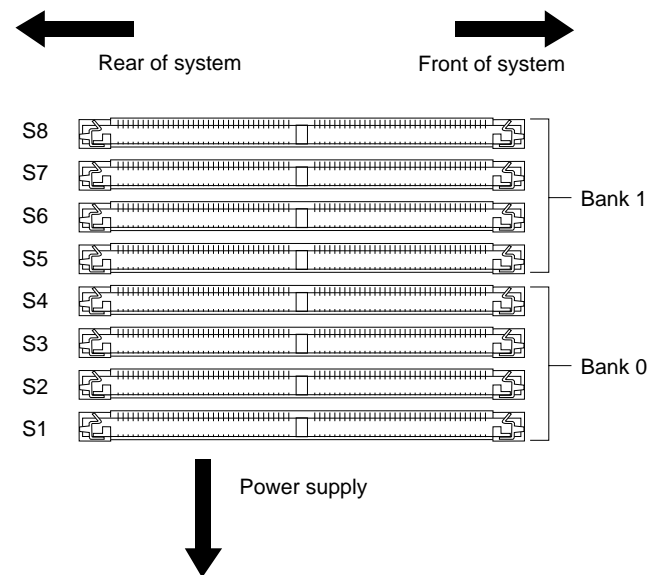

Figure 9-16 SIMM Socket and Bank Numbers
6. Locate the SIMMS next to the power supply. There are eight SIMM sockets, split into two banks—0 and 1. Figure 9-16 shows the bank and socket arrangement: